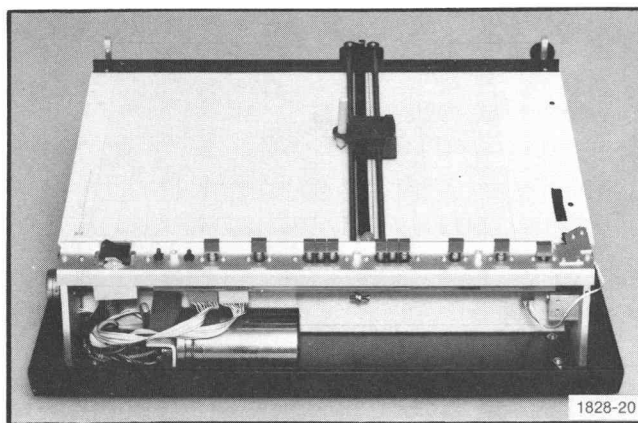

Fig. 3-20. Plotter setup for carriage alignments. The platen is installed without the plotter case.
The pen carriage alignment requires a plotter configuration illustrated in Fig. 3-20. The platen must be mounted without the plotter case. Items needed are ruled plotter paper, a 1/16 inch allen wrench, a 7/64 inch allen wrench, a small 1/4 inch open end wrench, and a #1 point Phillips screwdriver.
1. Install the platen using the appropriate steps in the procedure titled Reassembly of Case and Platen; do not put on the case. See Fig. 3-20.